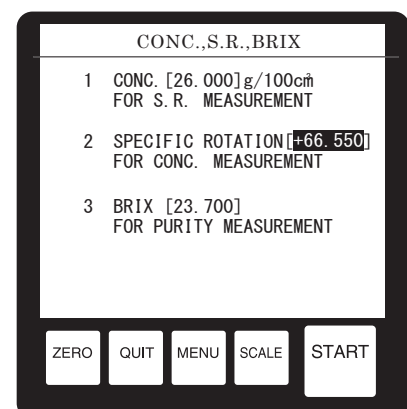

Fig.16-3
- The setting inside "[]" under 2 SPECIFIC ROTATION will be selected (the same can be done by pressing 2 on the numeric keypad, followed by pressing 2 on the numeric keypad, followed by the ← key) (Fig.16-3).